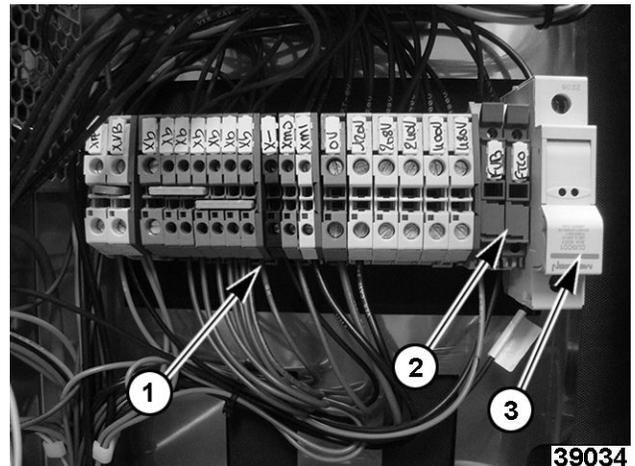

Fig. 15
3. Locate fuses (2, 3, Fig. 15) which are located on right side of terminal block (1, Fig. 15).
- Pull down from top of fuse holder (2, Fig. 15) to access 4 amp fuse for control circuit.
- Lift up on bottom of fuse holder (3, Fig. 15) to access 10 amp fuse for motor.